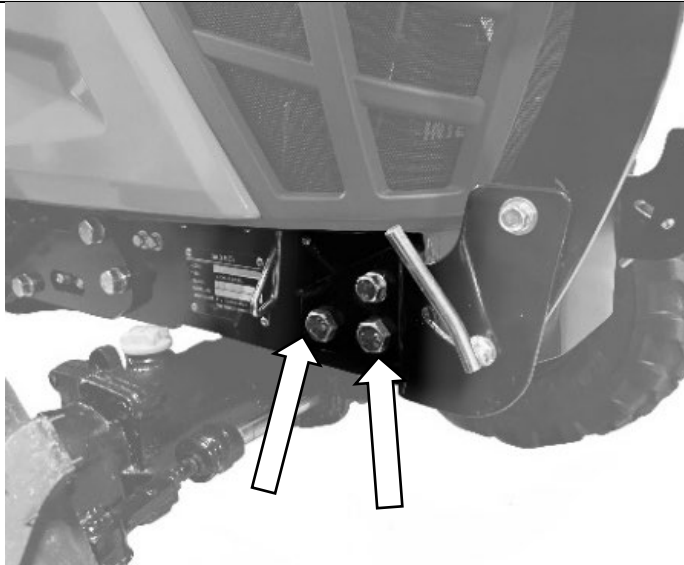

Figure 4B
4. On both sides of the tractor frame, remove and retain the two bottom bolts indicated (Figure 4B).